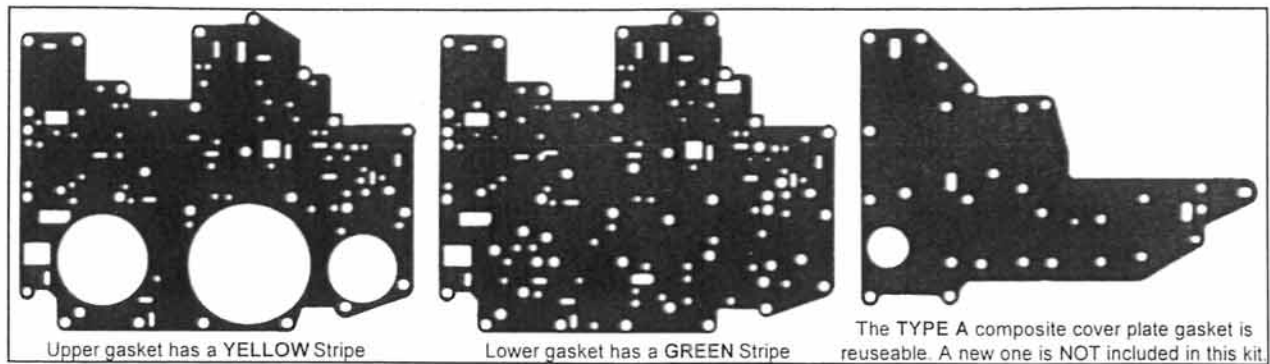

Figure 10. '92-'95 (TYPE A) Valve Body Gaskets
There are two (2) sets of separator plate gaskets in this kit see figures 10 & 11 for identification marks (color stripes). The laminated cover plate used on '92-'95 (Type A) units is reusable (unless damaged) and is not included in this kit. If your '92-'95 (Type A) cover plate gasket is damaged you will have to purchase a new one from a Ford dealership or